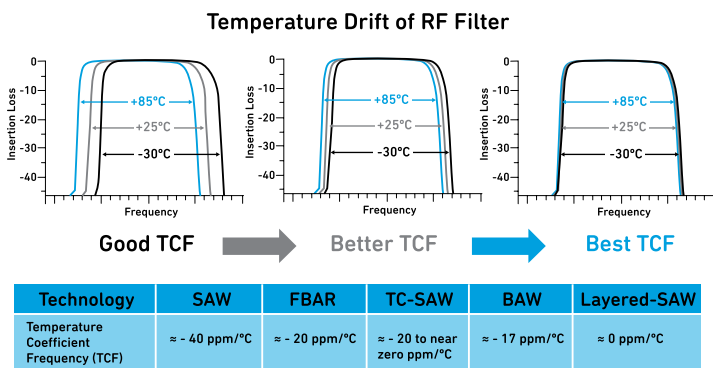

FIGURE 1-10: Temperature drift of piezoelectric filters.
In both SAW and BAW technologies, a best-in-class temperature coefficient is vital. It can mean the difference between RF interference and good signal quality in an application. In BAW and SAW technologies, the filter response moves depending on temperature, as shown in Figure 1-10.
As application temperature changes the filter response, the filter bandwidth drifts right when cold and left when hot. A filter's temperature drift is determined by the parts per million per degrees Celsius (ppm/°C) characteristic of the process and the temperature excursion the filter experiences in the application, as shown in Figure 1-10.
The frequency and environmental conditions of an application are usually fixed, so the only way to minimize the temperature drifting of the filter is via process technology. Using a temperature compensation (TC) filter process technology can affect the overall response of the filter. As you can see in Figure 1-10, the TC-SAW, layered SAW, and BAW technology processes greatly reduce temperature drift of the individual filters. These BAW, layered SAW, and TC-SAW process technologies offer lower insertion losses, create steeper filter skirts, and provide better temperature responses — which all equate to better out-of-band attenuation during temperature shifts. They also improve receiver sensitivity, isolation, and rejection.